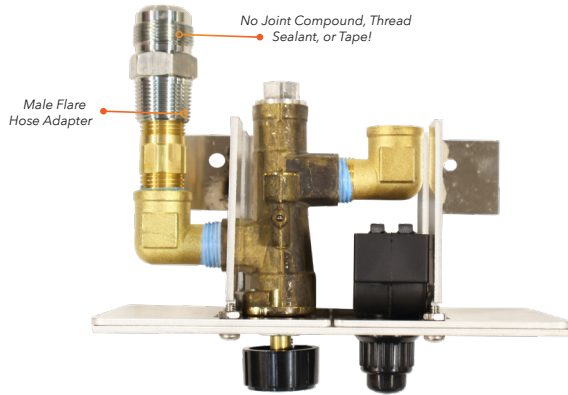

Figure 9: Attaching the Hose Adapter
4.3 Thread the female, non-flared end, of the hose adapter on to the exposed end of the 1/2" x 2" nipple of the valve assembly "outlet". {See Figure 9} Tighten with a wrench to avoid leaks.